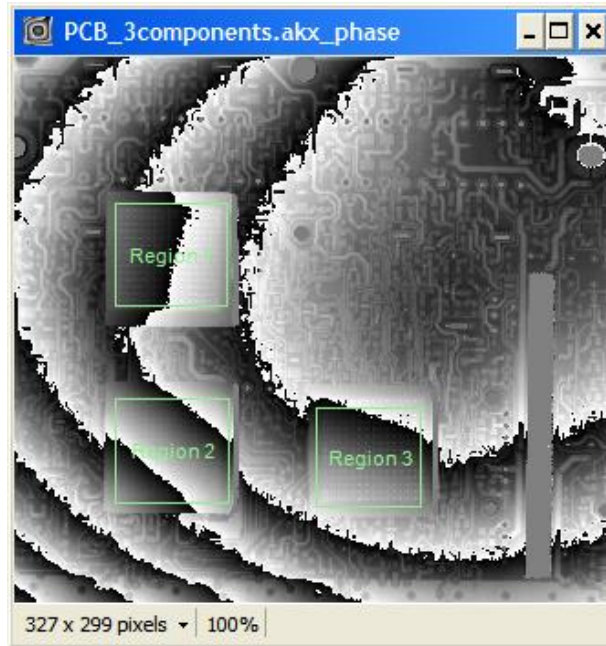

Figure 3.25 Multiple Domains on One Phase Image
- Additional domains can be added to the partition (**Figure 3.25**) by repeating steps 1 through 3. Domains may overlap.